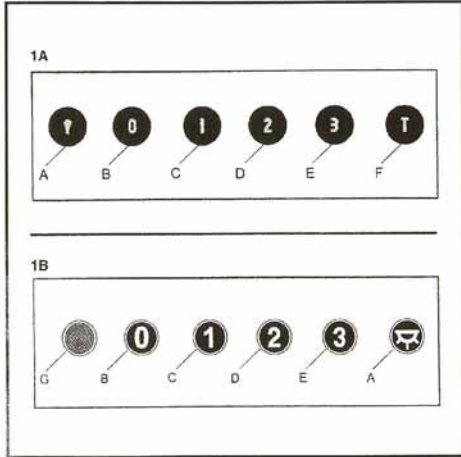

Fig. 5
- **COMANDS: 1A)LUMINOUS 1B)MECHANICAL** (Fig. 5) the key symbols are explained below: